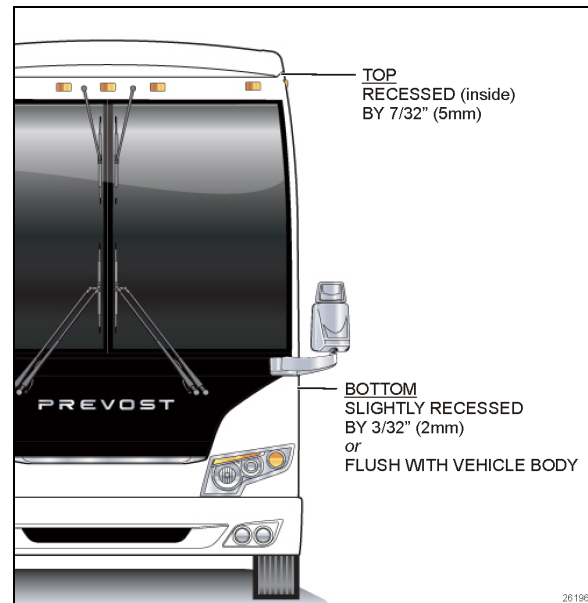

FIGURE 6: TILT ADJUSTMENT VALUES
The desired tilt adjustment is one where the top of the slide-out is slightly more recessed (inside) than the bottom. (Figure 6)
- The 2 lower "in limit" stoppers are perfectly adjusted, that means that the lower edge of the slide-out outer panel is flush or slightly in by 2mm (3/32") with the vehicle body when retracted;(Figure 6)